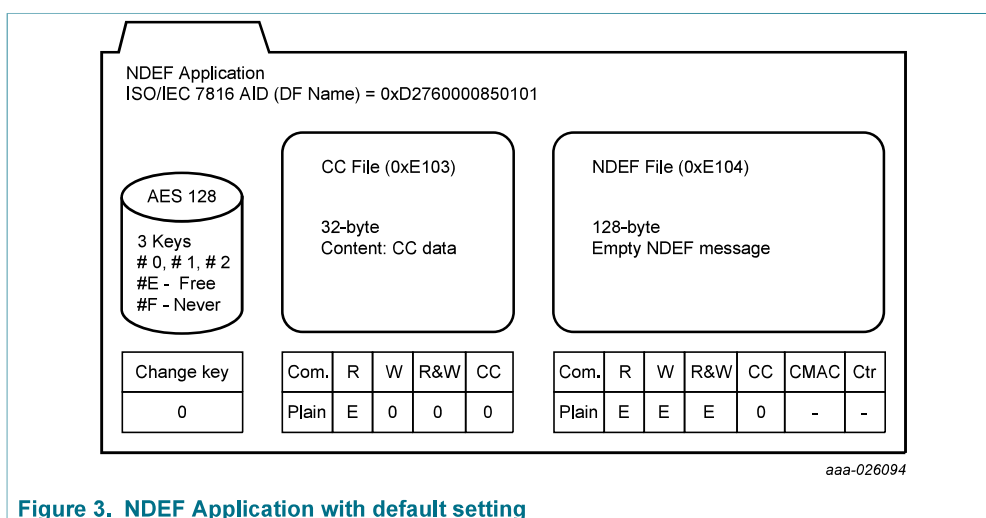

Figure 3. NDEF Application with default setting
The file system is according to NFC Forum-TS-Type-4-Tag\_2.0 NFC [5]. The application structure, see Figure 3 of NTAG 413 DNA is fixed and optimized to fulfil the requirements of the generic and secure NFC applications. In the single application, there is a set of keys and different access link to those keys can be provided by file settings. Note in the file setting "CC" stands for change configuration whereas the 32-byte file is called CC (Capability Container) file
The capability container (CC) file is initialized with the following data field: "000F20010000FF0406E10400800" present in "INITIALIZED" state. Date structure of the CC file is explained in [5]. It can be updated by authenticating with key number 0. The default access right is set as in Figure 3, write (w), Read & Write (R&W) and change key can be set to any other value or "F" to make this file read only. To be NDEF complaint the read (R) access shall remain free (E). One-byte CC file ID is 0x01, is to be used as file number/ ID for the commands with class byte 0x90, if required.